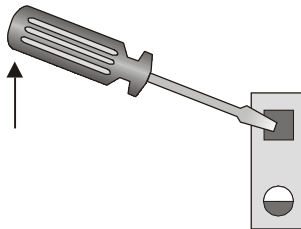

Figure 2-4 Connecting the Line – Step 2
2. Raise the inserted screwdriver, putting pressure on the ramp within the square hole (see *Figure 2-4*).